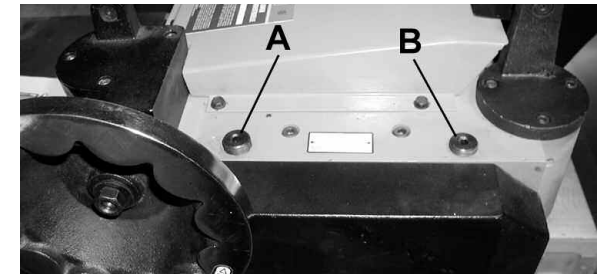

FIGURE 22
To adjust the spring tension of the infeed and outfeed roller, using a hex. key, turn set screw (A) Fig.22 to adjust the infeed roller spring tension and set screw (B) to adjust the outfeed roller spring tension. Make sure that both sides are adjusted evenly or else you will get uneven feeding of stock.